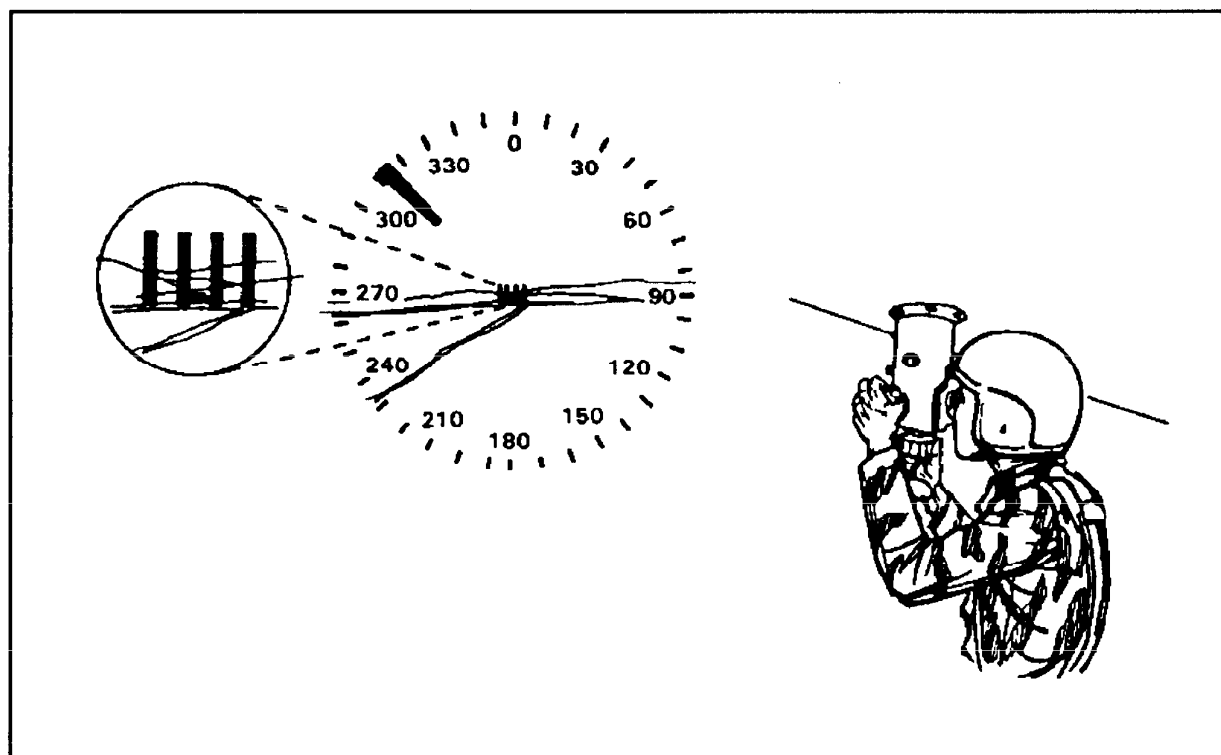

Figure 4-12. Stadia lines.
(1) The squad leader places the stadia lines (Figure 4-12) on the target and determines how wide the target is in mils. Within the periscope reticle are four stadia lines. The distance between the two center lines is 3 mils; the distance between the two outer lines is 8 mils.